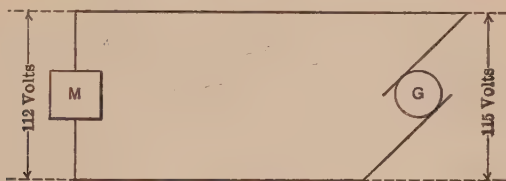

FIG. 84.
**Prob. 45.** The motor, Fig. 84, is 180 ft. from the generator and requires 18 amp. What size line wire must be used?